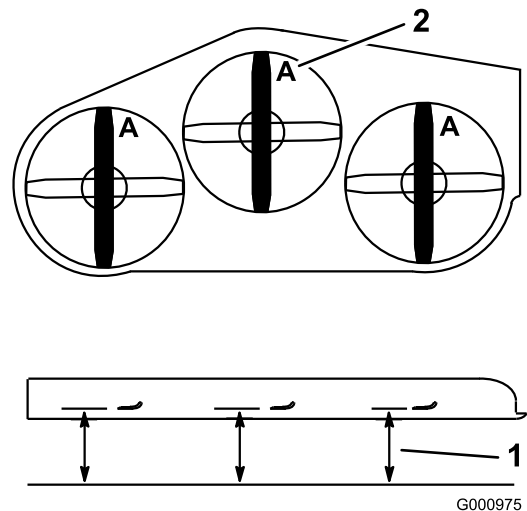

Figure 75
2. Measure from a level surface to the cutting edge, position A, of the blades (Figure 75).